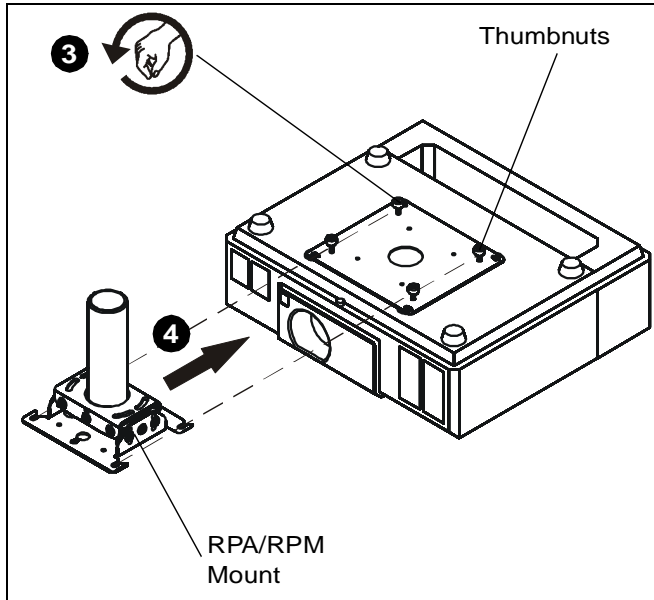

Figure 1
3. Loosen the thumbnuts securing the projector to the RPA/RPM mount. (See Figure 1)